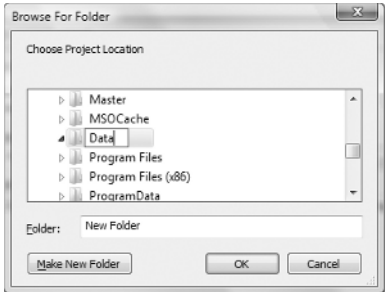

Figure 1.22
- 6. On the next line, the default path that Inventor uses will be listed. Click the ellipsis icon to the right to begin browsing to a different folder. Figure 1.22 shows the Browse For Folder dialog box. In this case we want to create a new folder. Do not create the folder in the location initially offered. Instead, scroll to your C drive, select the root of the C drive, and click the Make New Folder button. This creates a new folder on the C drive and allow you to rename it. Name the new folder **Data**, and click OK to close the Browse For Folder dialog box.